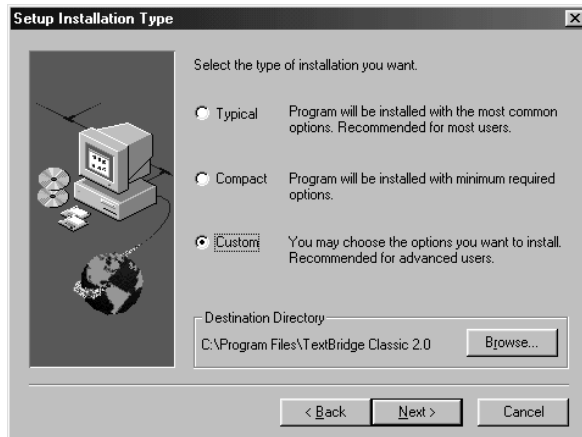

Figure 29: Selecting the type of installation
3. Click on 'Yes' to accept the License Agreement and to continue with the installation. Figure 29 will pop up.
4. Select 'Custom' (Figure 29). A bullet will be filled in next to your choice.